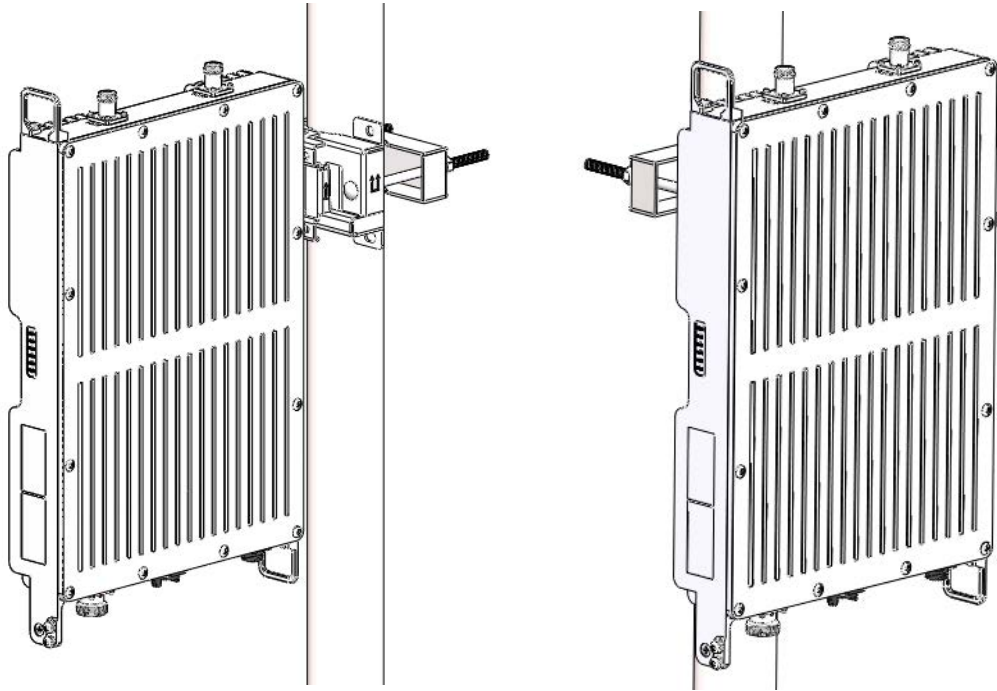

Figure 4-26 Put the equipment on the pole
3. Install the LPA device on the support and tighten the screws, as shown in Figure 4-26.